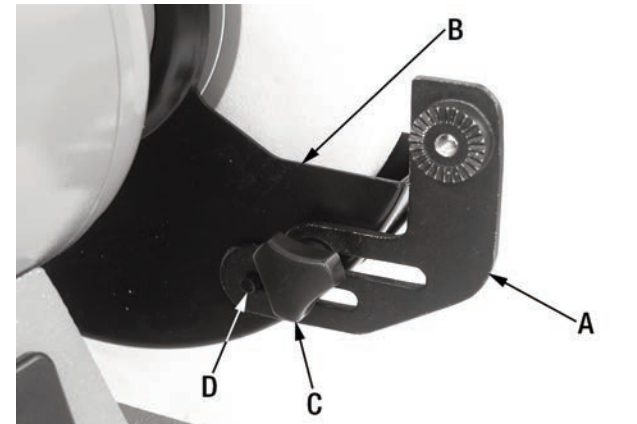

FIGURE 6
1. Install the right side tool rest support (A) Fig.6 to the grinding wheel guard (B) using a carriage bolt, washer, spring washer and lock knob (C).
2. The lower slot on the tool rest support (A) Fig.6 fits around the small post (D) that sticks out from the grinding wheel guard (B). The upper slot is used to position the carriage bolt, washer, spring washer and lock knob.